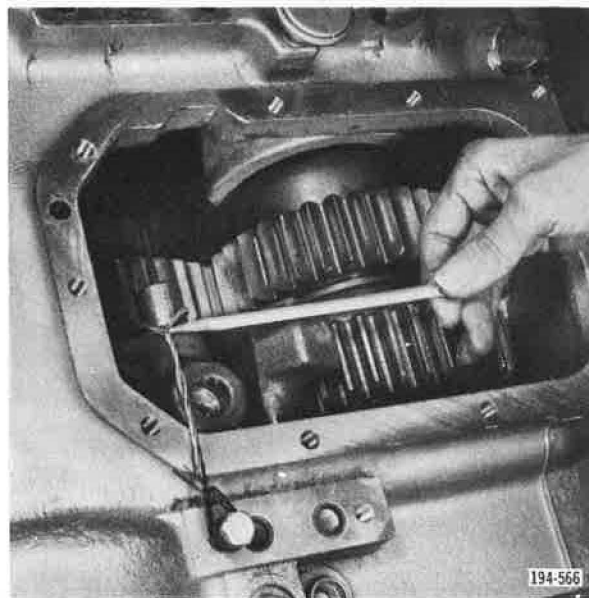

Figure 5-251. Wire Holding Shift Fork
31. Secure Direct/Lo-range shift fork in position, using a piece of wire. This will prevent it from sliding forward. See Figure 5-251.